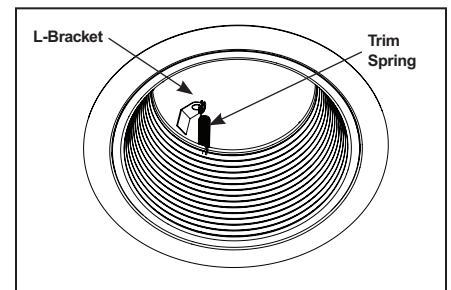

Figure 9
Step 1. Install open trims using supplied coil springs or torsion springs. (Reference Figure 9 for coil spring installation).